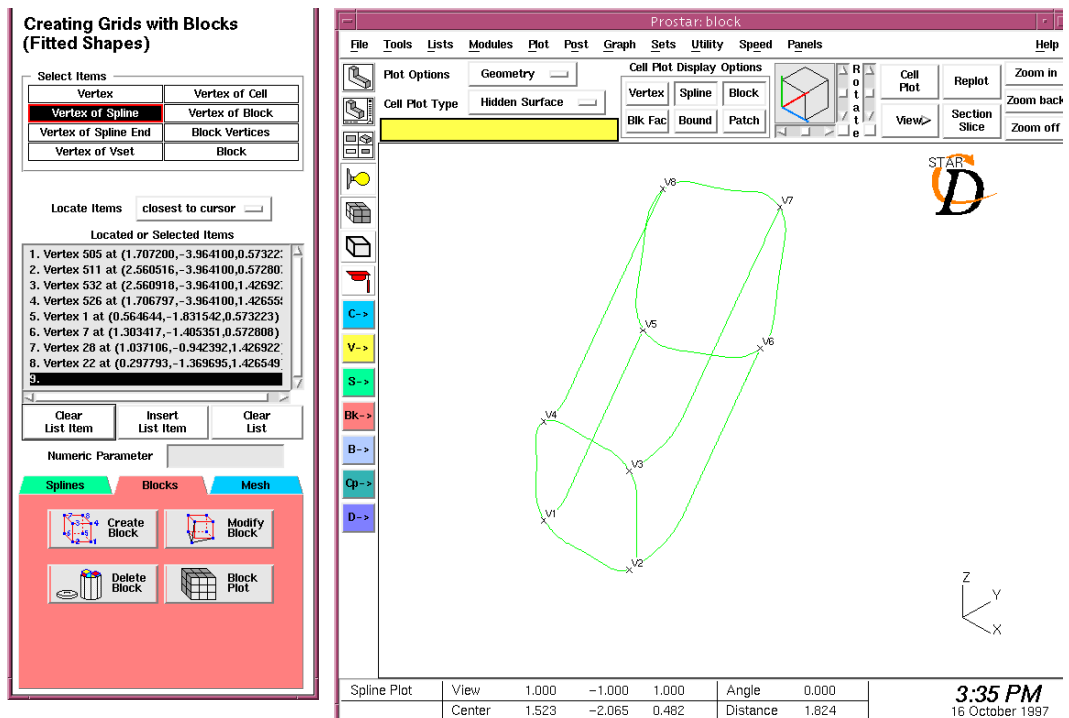

Figure 3-58 Selecting corner vertices
- Use the cursor to mark the appropriate vertices at the eight corners of each block (see Figure 3-58). A list of these vertices should appear in the *Located or Selected Items* scroll list.